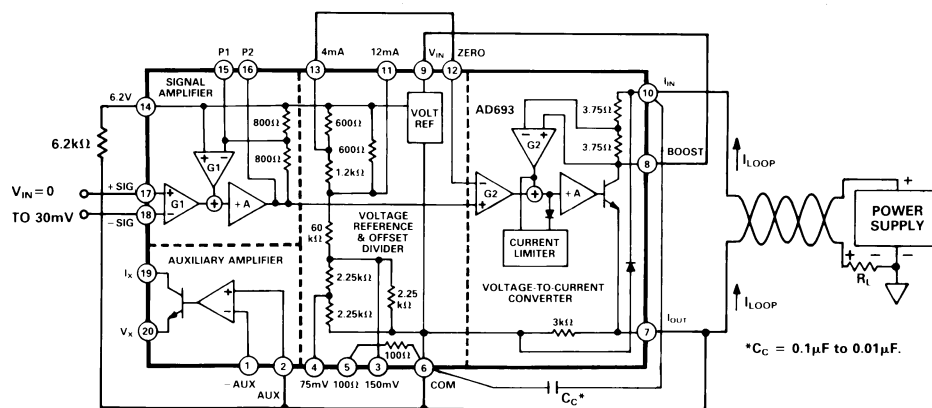

Figure 10. Minimal Connection for 0–30 mV Unipolar Input, 4–20 mA Output
- 6 The operational voltage ( $V_{OP}$ ) is the voltage directly across the AD693 (Pin 10 to 6 in two-wire mode, Pin 9 to 6 in local power mode). For example,  $V_{OP} = V_S - (I_{LOOP} \times R_L)$  in two-wire mode (refer to Figure 10).
Figure 10 shows the minimal connections for basic operation: 0–30 mV input span, 4–20 mA output span in the two-wire, loop-powered mode. If not used for external excitation, the 6.2 V reference should be loaded by approximately 1 mA (6.2 k $\Omega$  to common).